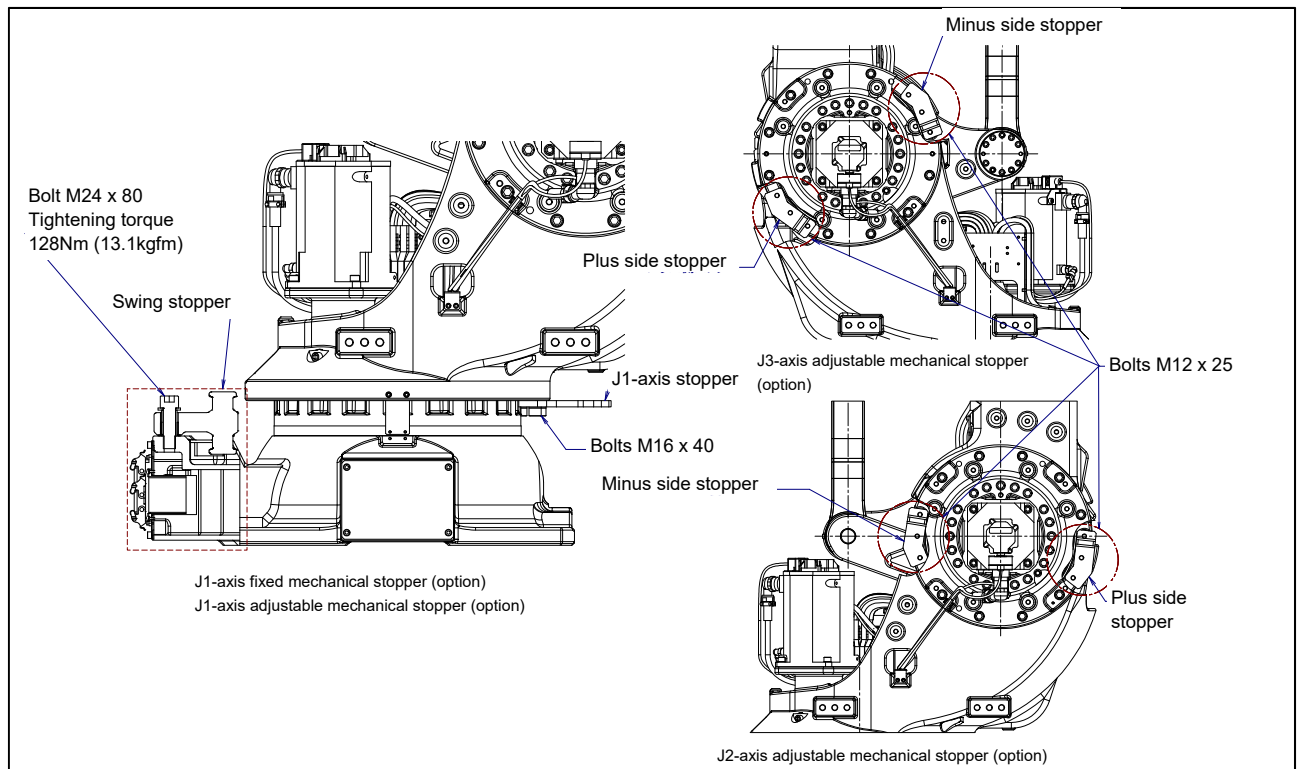

Fig. 7.2.4 (a) Check of fixed mechanical stopper and adjustable mechanical stopper
- Check the tightness of the stopper mounting bolts. (Fig. 7.2.4 (a))